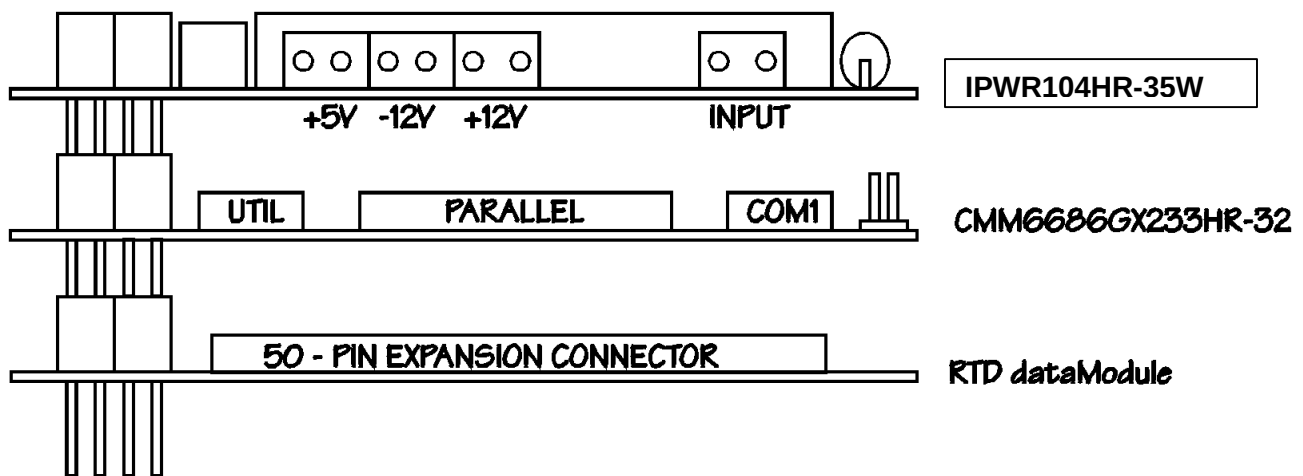

Fig. 2-1: IPWR104HR-35W integrated in a RTD PC/104 cpuModule stack
- Fig. 2-1:** IPWR104HR-35W integrated in a PC/104 RTD cpuModule stack